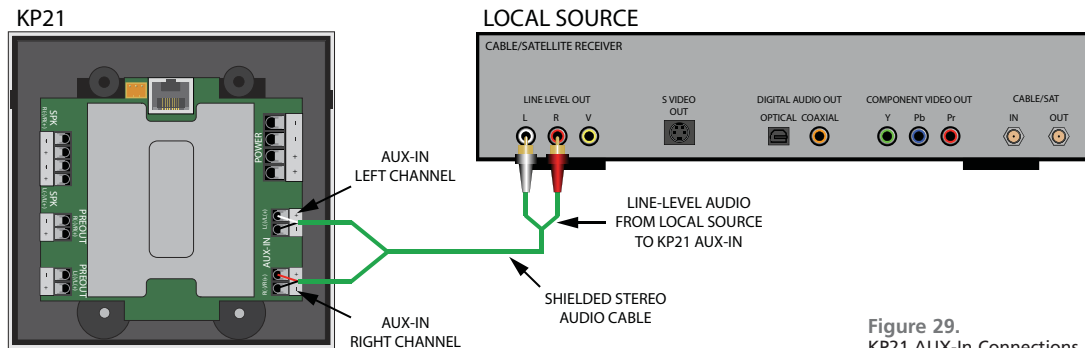

Figure 29.
Using a Cat. 5e cable properly terminated with an RJ45 connector, connect the cable from one of the **Multiroom Link Terminals 30** on the AVR21EN, to the AVH21 **Hub Terminal 28** on the KP21 rear panel, as shown in **Figure 29**.
Using a Cat. 5e cable properly terminated with an RJ45 connector, connect the cable from the appropriate AVH21 **A/V Hub KP Terminal 5** to the AVH21 **Hub Terminal 28** on the KP21 rear panel, as shown in **Figure 29**.
2. Insert the twisted ends into the appropriate slots on the **R+/R-** and **L+/L-** **AUX-In Terminals** 29 30 on the KP21 rear panel, as shown in **Figure 29**, and tighten with a small-blade screwdriver. Pull the wire slightly to confirm connection.
4. Connect to local-source Left and Right line-level audio outputs, as shown in **Figure 29**.